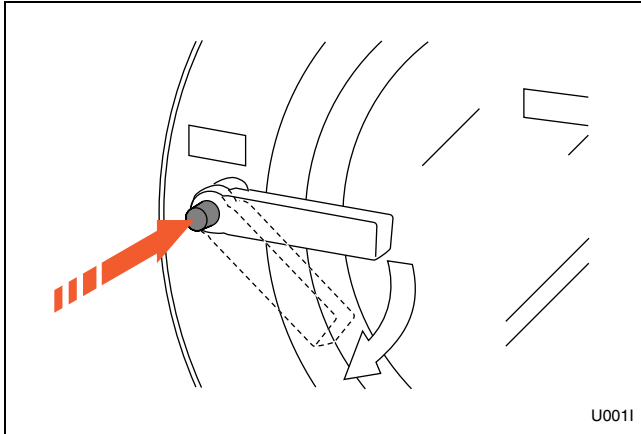
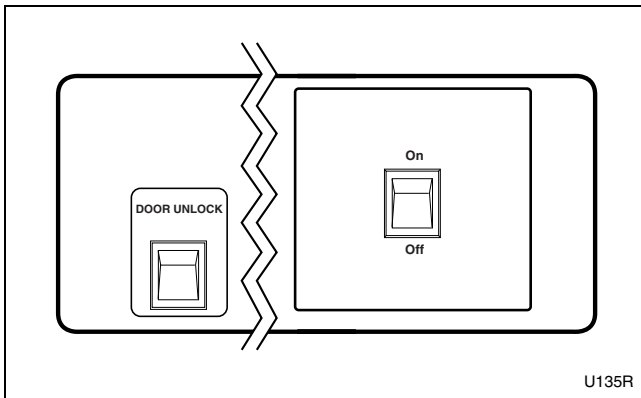

Figure 3
Figure 4
2. Push button and turn handle clockwise to open. Refer to *Figure 3*.
For non-coin models: Press and hold the DOOR UNLOCK button on the left side of the control panel while performing the above step. Refer to *Figure 3* and *Figure 4*.